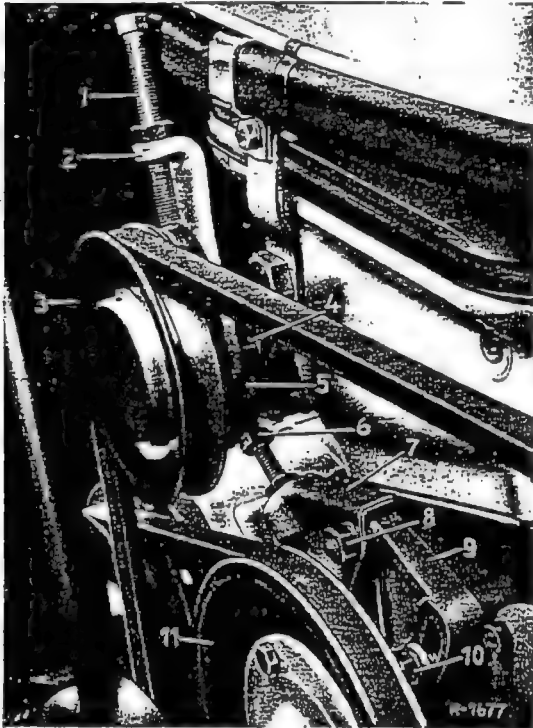

Fig. 32-12/9
To retension the V-belt, loosen the hexagon nut (4) on the bearing bracket (5) and tighten the tensioning screw (1) (Fig. 32-12/9). Afterwards tighten the lock nut of the tensioning screw and the hexagon nut on the bearing bracket.